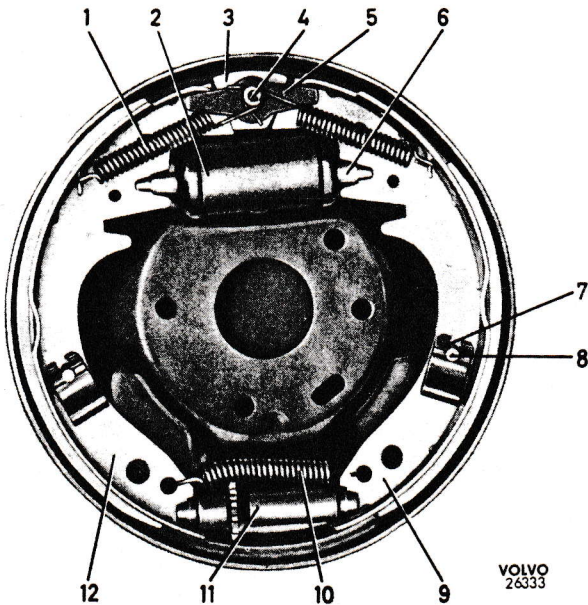
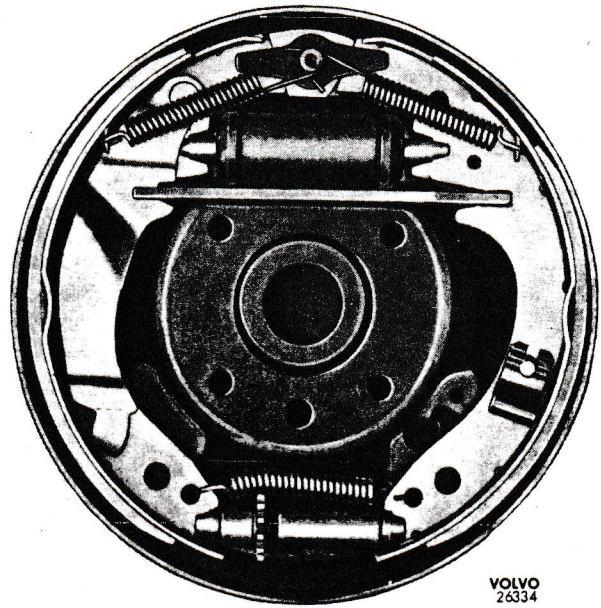
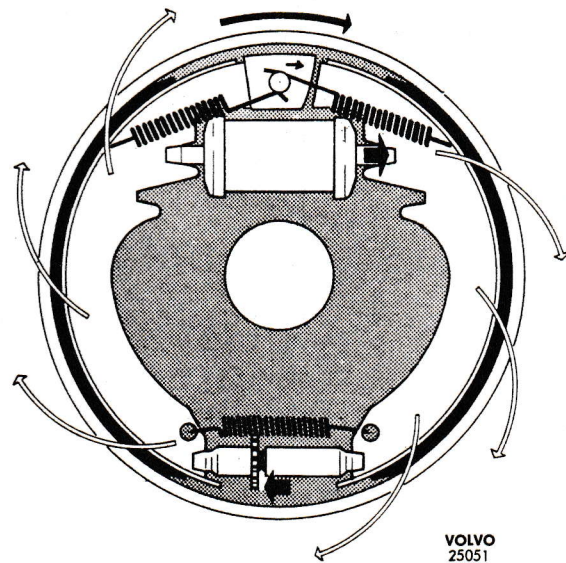
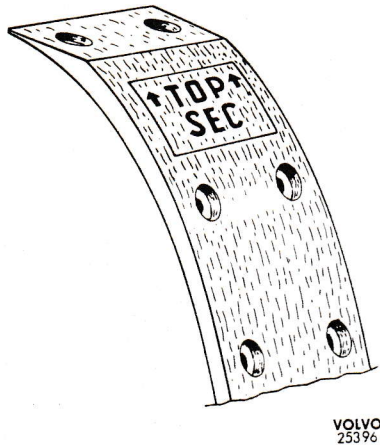

Fig. 4. Wheel brake unit, right front wheel.
Fig. 5. Wheel brake unit, right rear wheel.
Fig. 6. Application of wheel brake units.
Fig. 14. The front wheel rear brake lining.
The brake shoes (9 and 12, Fig. 4) are flexibly attached to the brake backing plate by means of guide pins (8) and spring clips (7). The upper ends of the shoes are held pressed against the riveted centring block (3) by the return springs (1). The lower ends are jointed by means of an adjusting device (11) against which they are held pressed by the spring (10), which in addition locks the adjusting screw star wheel. This arrangement makes the brake shoes self-centring and both the shoes partly self-applying (Duo-servo).
When the brake is applied, the wheel unit cylinder plungers press out the brake shoes against the brake drum by means of the thrust rods (6, Fig. 4). Because of the friction between the drum and lining, the shoes will follow round in the direction of rotation of the drum. Because of the flexible suspension of the brake shoes, the primary shoe (9) will
be pressed downwards and the secondary shoe (12) upwards until its upper end comes up against the centring block, see Fig. 6. The end of the secondary shoe in then displaced on the block so that the shoe becomes centred in relation to the brake drum. Since the pivoting point of the secondary shoe is at the anchor stud (4, Fig. 4) and that of the primary shoe at the adjusting device, friction between the drum and lining will assist with brake application, Fig. 6. This effect is also amplified by the fact that
Fit the ready-made original linings. Note that the rear brake shoes (secondary shoes) on the front wheels are fitted with thicker and eccentrically ground linings which are marked on the wear side as shown in Fig. 14. The thicker (marked section) should face upwards. The shorter primary shoe lining is fitted as shown in Fig. 4 and Fig. 5 respectively.